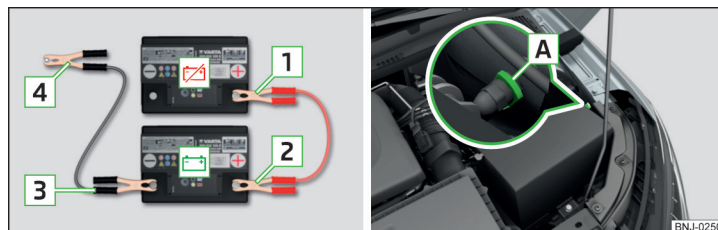

Fig. 278 Jump-starting: - discharged battery, - power-supplying battery/ground point of the engine for the START-STOP system
- For vehicles **with** the START-STOP system, attach clamp **4** to the ground point of the engine **A** » Fig. 278.